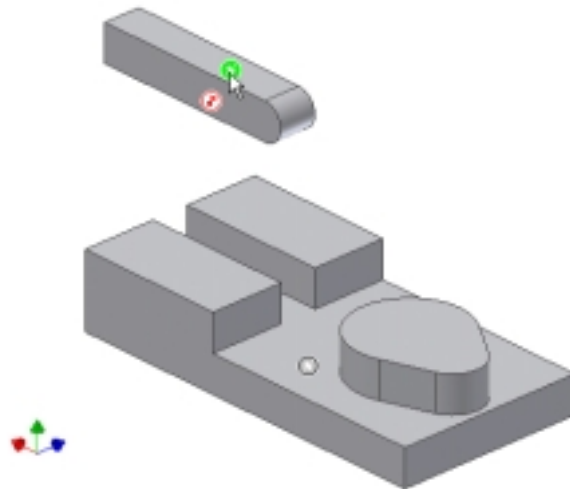

Figure 3-26
2. Hold down the Alt key, select the iMate symbol of the follower, and drag it to the iMate symbol of the base component. (See Figure 3-26.)